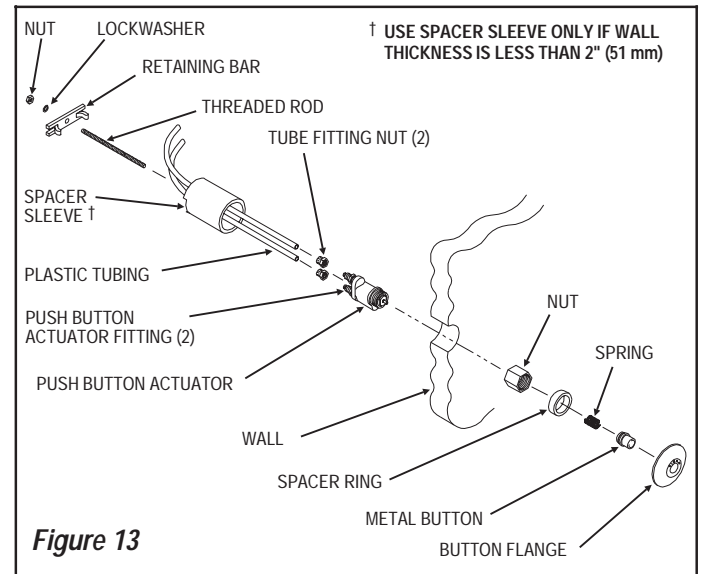

Figure 13
**INSTALLATION OF MODEL HY-100-A FIXTURE WALL METAL PUSH BUTTON ACTUATOR (Figure 13)**